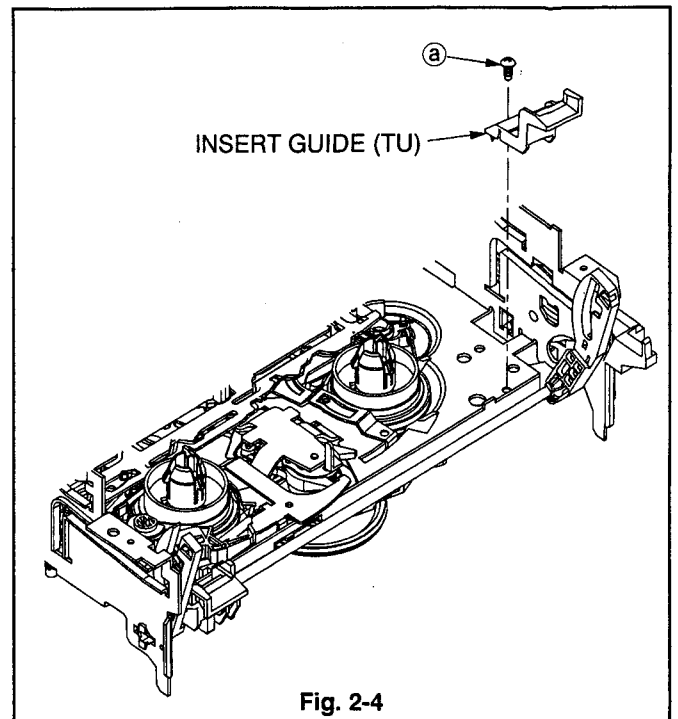

Fig. 2-4
1. Remove the screw (a) fastening the INSERT GUIDE (TU) shown in the Fig. 2-4 to remove the INSERT GUIDE (TU).
1. Install the INSERT GUIDE (TU) shown in the Fig. 2-4.